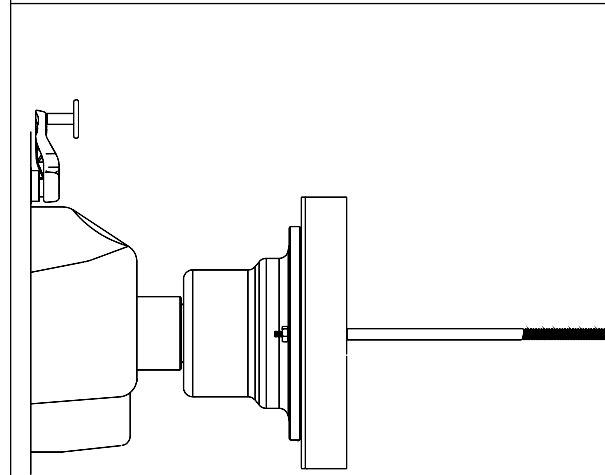

Figure 26 - Shaft with plate adapter only
- Mount a balanced wheel/tire to the shaft. See Fig 26.